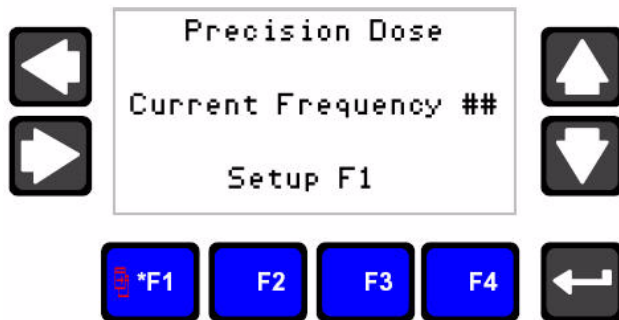

FIG. 1 Main Screen
1. When the control box is powered on, the operator interface displays the screen shown in FIG. 1. This Main screen displays current frequency of dosing rate and set up F1.